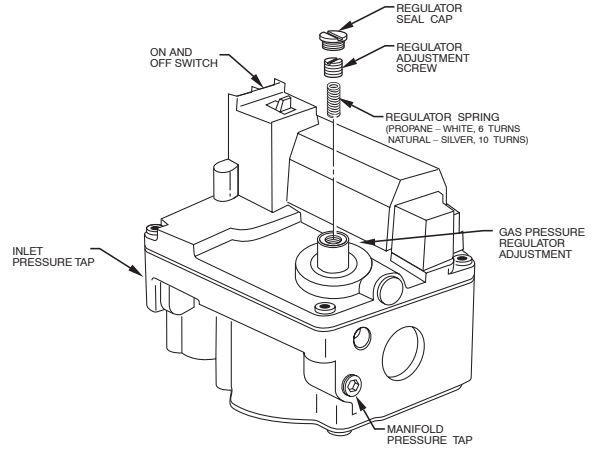

Fig. 8 - Single Stage Gas Valve Series F
2. Remove regulator seal cap. (See Fig. 8, 9 or 10.)
5. Turn regulator adjustment screw clockwise (in) 6 turns for Fig. 8 and 9.
2. Remove 1/8-in. (3 mm) pipe plug from inlet pressure tap on gas valve. (See Fig. 8, 9 or 10.) **DO NOT DISCARD 1/8-in. (3 mm) PLUG.**
2. Remove 1/8-in. (3 mm) pipe plug from manifold pressure tap on downstream side of gas valve. (See Fig. 8, 9 or 10.)
- a. Turn adjusting screw counterclockwise (outwards) to decrease manifold pressure or clockwise (inwards) to increase manifold pressure. (See Fig. 8, 9 or 10.)
7. Remove manometer and replace manifold pressure tap plug. (See Fig. 8, 9 or 10.)